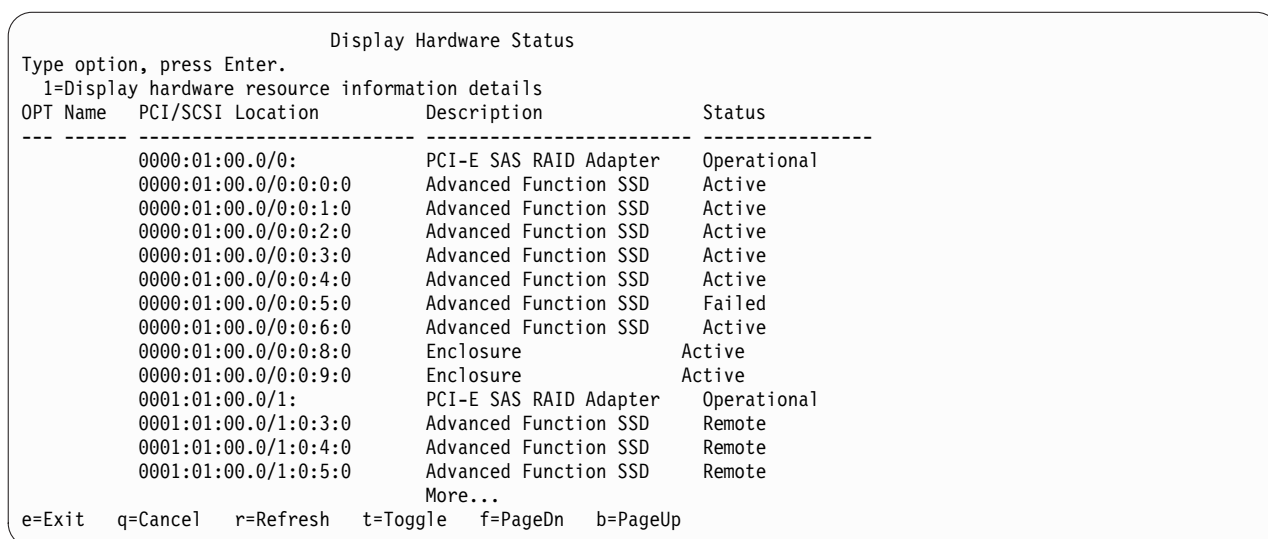

Figure 28. Example Display Hardware Status
- h. Select **Display hardware status** from the IBM Power RAID Configuration Utility display. Press Enter. The Display Hardware Status screen displays as shown in Figure 28 and Figure 29 on page 42.